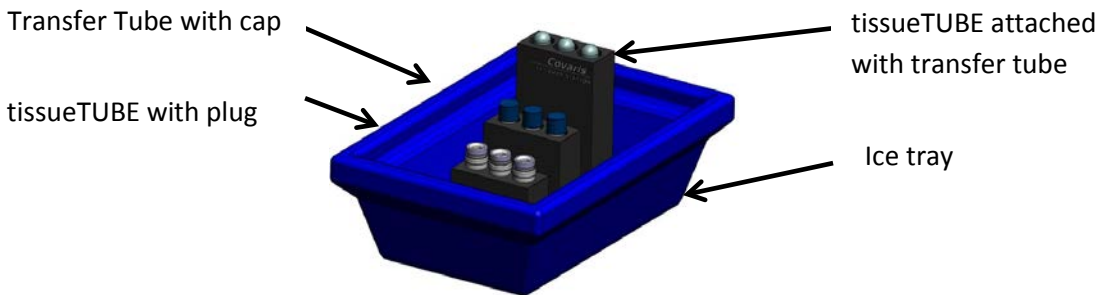

Figure 3 – Prep station set up
3. **Pre-chill the tissueTUBE-Transfer Tube complex** – Label the tissueTUBE before placing it on dry ice. If using the Prep Station, the larger transfer tubes (TC 16 or TC 20) can be pre-chilled by placing them into the second position in the Prep Station shown in Figure 3.